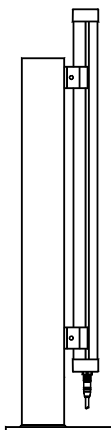

Figure 5
3.3. Locate columns in the mounting brackets and adjust to correct height and tighten clamp plates. See figure 5.